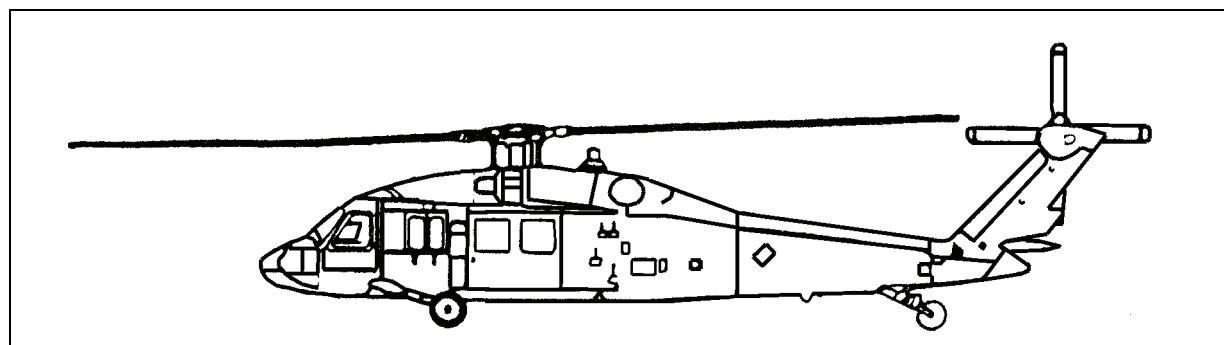

Figure 2-21. H-60 Blackhawk
- **H-60 Blackhawk.** The H-60 (Figure 2-21) is a twin engine, single main rotor helicopter manufactured by Sikorsky Aircraft. Its primary missions are search and rescue, to aerial deliver personnel, supplies, and equipment or perform antisubmarine warfare duties.